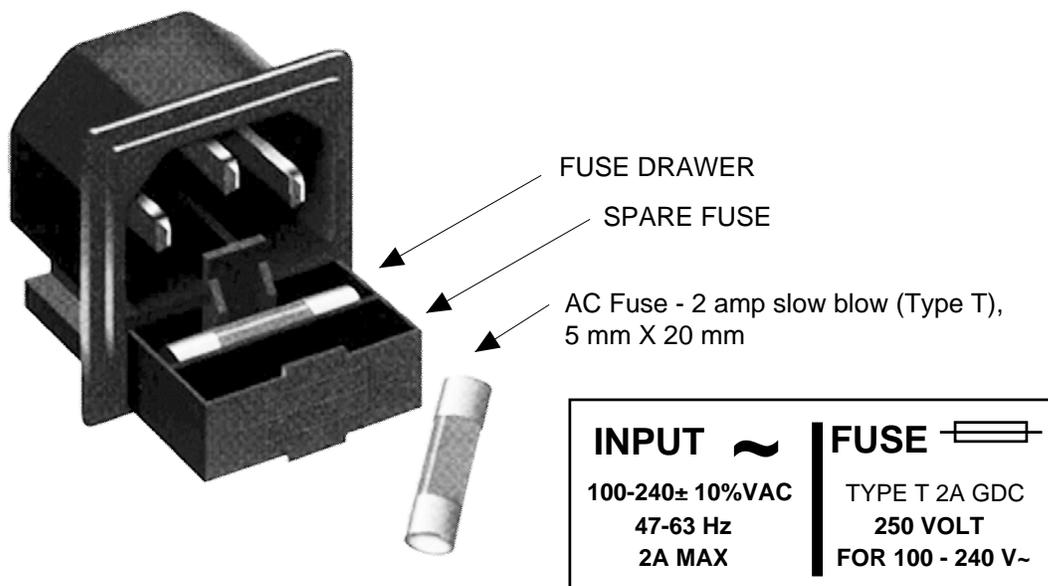

FIGURE 2.3 Fuse Location and Spare Fuse
- 5.) **AC Fuse** - The fuse is a 5 mm X 20 mm, 2 amp slow blow (Type T) and is inserted in the far slot in the drawer below the AC input as shown in Figure 2.3. There is a spare fuse in the near slot. If a fuse continues to open, the power supply is most likely defective.